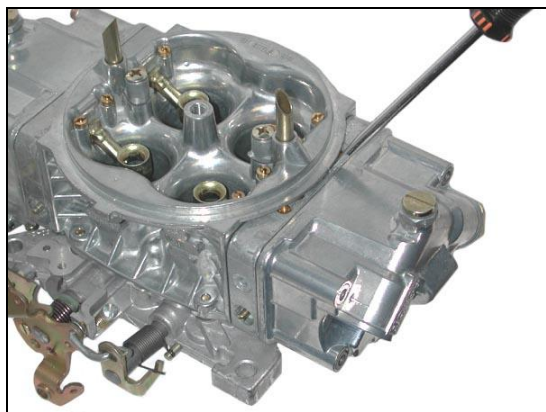

Figure 1
4. Remove the fuel bowls and metering blocks from your old main body. Using a soft-faced hammer, "tap" the fuel bowls moderately, near the float adjustment screws, in an effort to break the gasket seals. If this method fails, then it becomes necessary to carefully "pry" the components apart. Wedge a large flat tip screwdriver under the air cleaner gasket ring lip and the center of the metering block and carefully "pry" away from the main body to remove (both ends of the carburetor). See **Figure 1**.